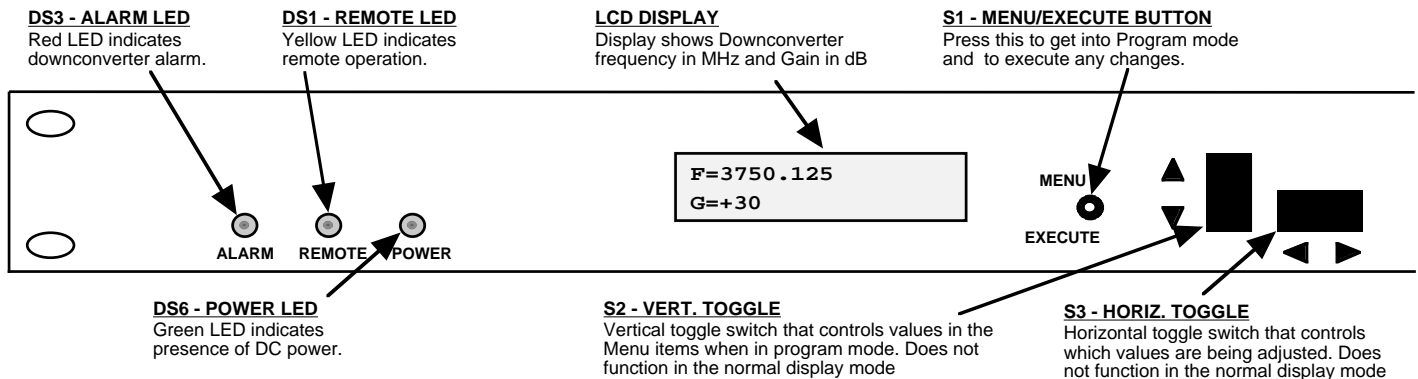

FIGURE 2.3 2016-34 Front Panel Controls and Indicators
Figure 2.3 shows the front panel controls and indicators.
6. Be sure DS6 (green, DC Power) is on and DS3 (red, Alarm) is off (Figure 2.3).
Alarm indications appear on the LEDs (see figure 2.3).